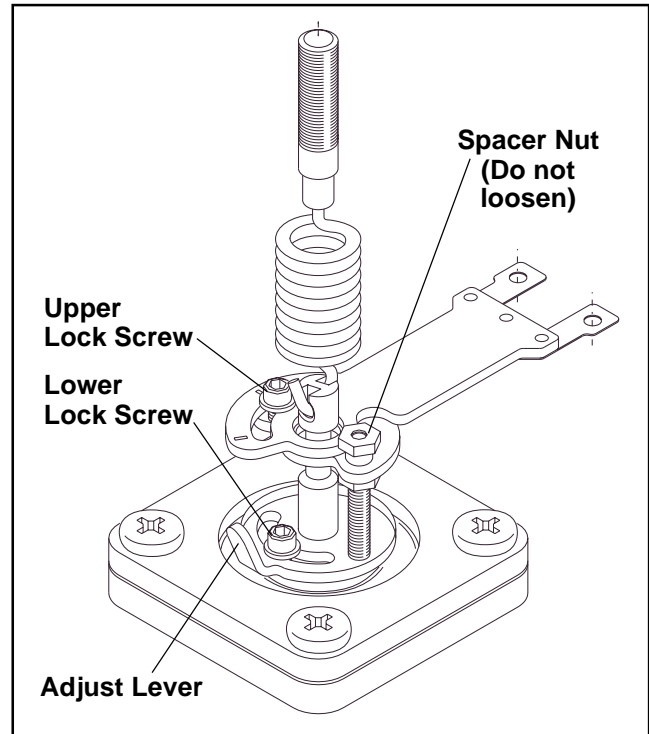

Figure 9: Gain Adjustment
3. Using a $\frac{5}{64}$ -inch Allen wrench, *loosen both the upper and lower lock screws* about one half turn. Do not loosen the spacer nut. (See Figure 9.)